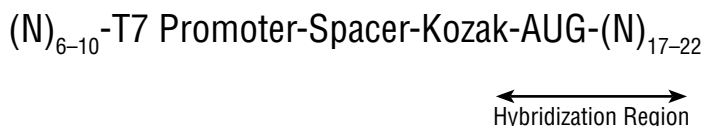

Figure 1. Design of 5′ PCR Primer.
After choosing the complementary oligonucleotides, additional sequences may be needed in the 5′ oligonucleotide. These include a phage polymerase promoter for transcription of the DNA template, as well as the Kozak consensus sequence (if not already present) to enable efficient translation of the RNA. Typically, when amplifying from the 5′ UTR of a target cDNA, the native Kozak sequence is present (2). However, if translation will be initialized from an internal AUG, a Kozak consensus sequence should be added for optimal protein expression (Figure 1). Recent literature suggests that there is polymorphism within the Kozak sequence, and certain sequences show increased translation efficiency *in vitro* and *in vivo* (3). Finally, it is recommended that some additional nucleotides be added upstream of the T7 consensus sequence to ensure efficient RNA production. General recommendations for PCR conditions can be found in many sources including *PCR Protocols* (4). After amplification, it is important to analyze the samples by agarose gel electrophoresis to ensure that the correct product has been amplified and that no spurious bands are present. PCR-generated DNA fragments may be used directly in the TNT® T7 Quick for PCR DNA reaction without purification.